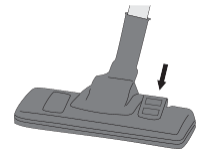

Figure 4 Soft or hard surfaces
5. Press the foot button on the nozzle to set the combi nozzle for use on hard or soft surfaces, see Figure 4. For use on hard surfaces, press the rear of the foot button on the combi nozzle to extend the brushes. Press the front of the foot button for use on soft surfaces.